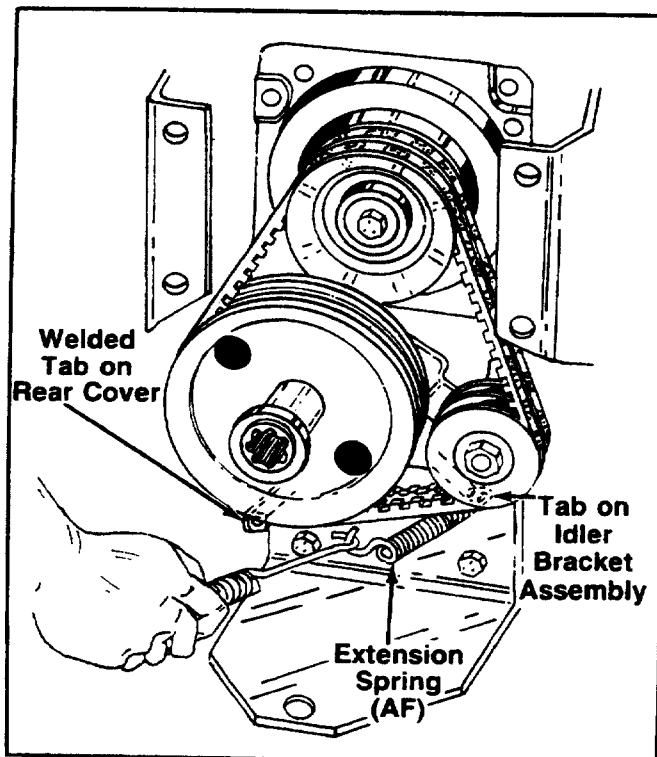

FIGURE 32.
41. Hook closed end of extension spring (AF) to welded tab on idler bracket assembly (18), using a suitable tool. Hook the other end of the spring to the tab on the rear cover plate. See figure 32.